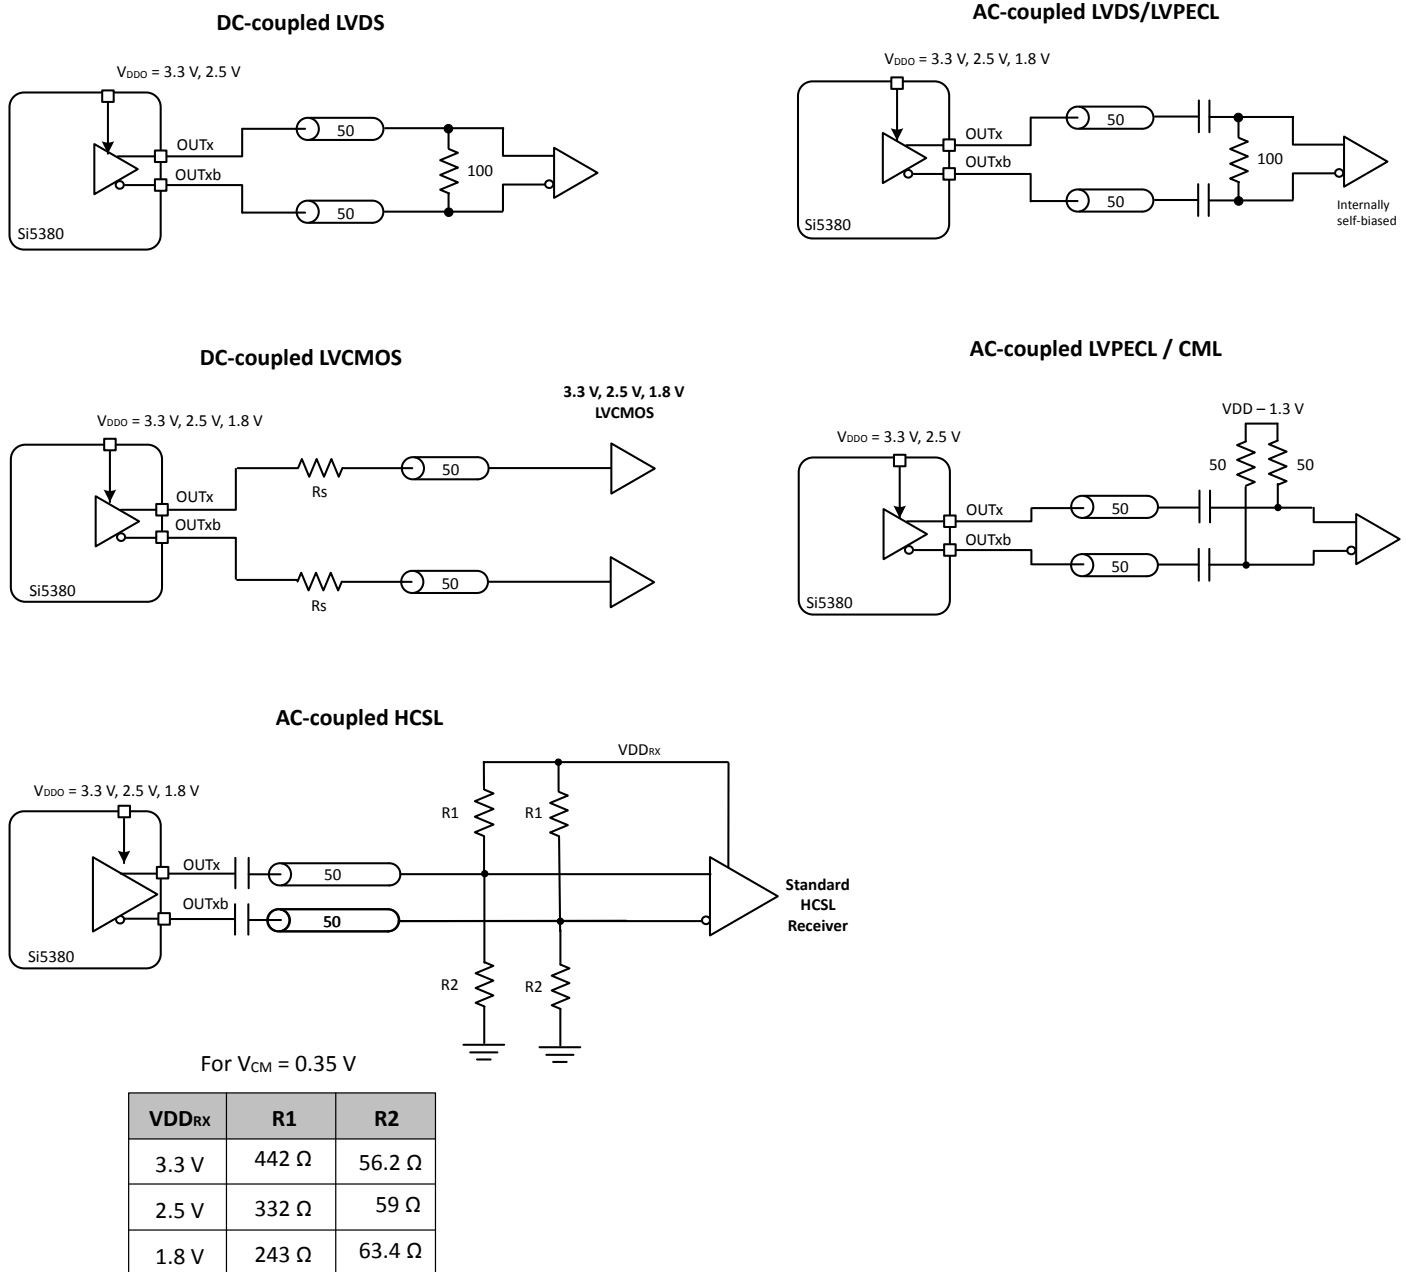

Figure 3.14. Supported Output Terminations
- **Differential Normal Mode:** When an output driver is configured in normal amplitude mode, its output amplitude is selectable as one of 8 settings ranging from 130 mV_{pp_se} to 920 mV_{pp_se} in increments of 100 mV. The output impedance in the normal mode is 100 Ω differential. Any of the ac-coupled terminations shown in Figure 3.14 Supported Output Terminations on page 15 are supported in this mode.
- **Differential Low Power Mode:** When an output driver is configured in low power mode, its output amplitude is configurable as one of 8 settings ranging from 200 mV_{pp_se} to 1600 mV_{pp_se} in increments of 200 mV. The output driver is in high impedance mode and supports standard 50 Ω PCB traces. Any of the ac-coupling terminations shown in Figure 3.14 Supported Output Terminations on page 15 are supported in this mode.